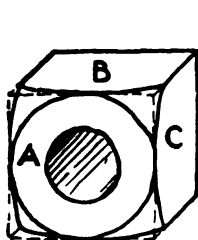

Fig. 82.
(1) When making working sketches use the same method as in Orthographic or Projection drawing. Try to estimate the distances accurately so that the proportions will be as nearly like those of the object as possible.
(2) When making a pictorial view the simplest way is to sketch the object as though it were placed below the eye and a little to one side. (Fig. 82). Notice that side A is a regular front view and that sides B and C are foreshortened about one-half and inclined at an angle of 45 degrees.